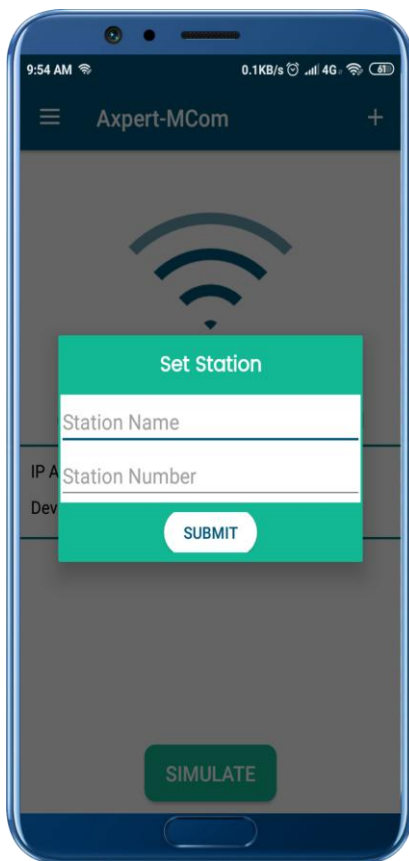

Figure 10: Product name and station number setting
- To connect the device with the application, we need to configure the connected product. **Long press on product you wish to connect.** A dialogue box will appear to configure product name and station number (Figure 10).